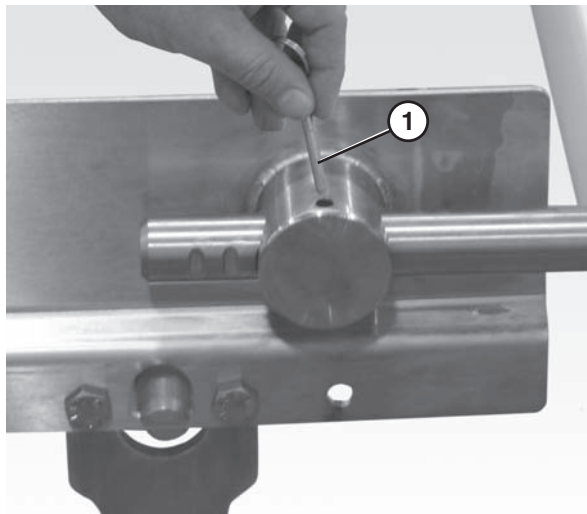

Figure 62
1. Remove the pull pins (**Figure 62, item 1**) on the tension end of the conveyor to release tension on the belt.